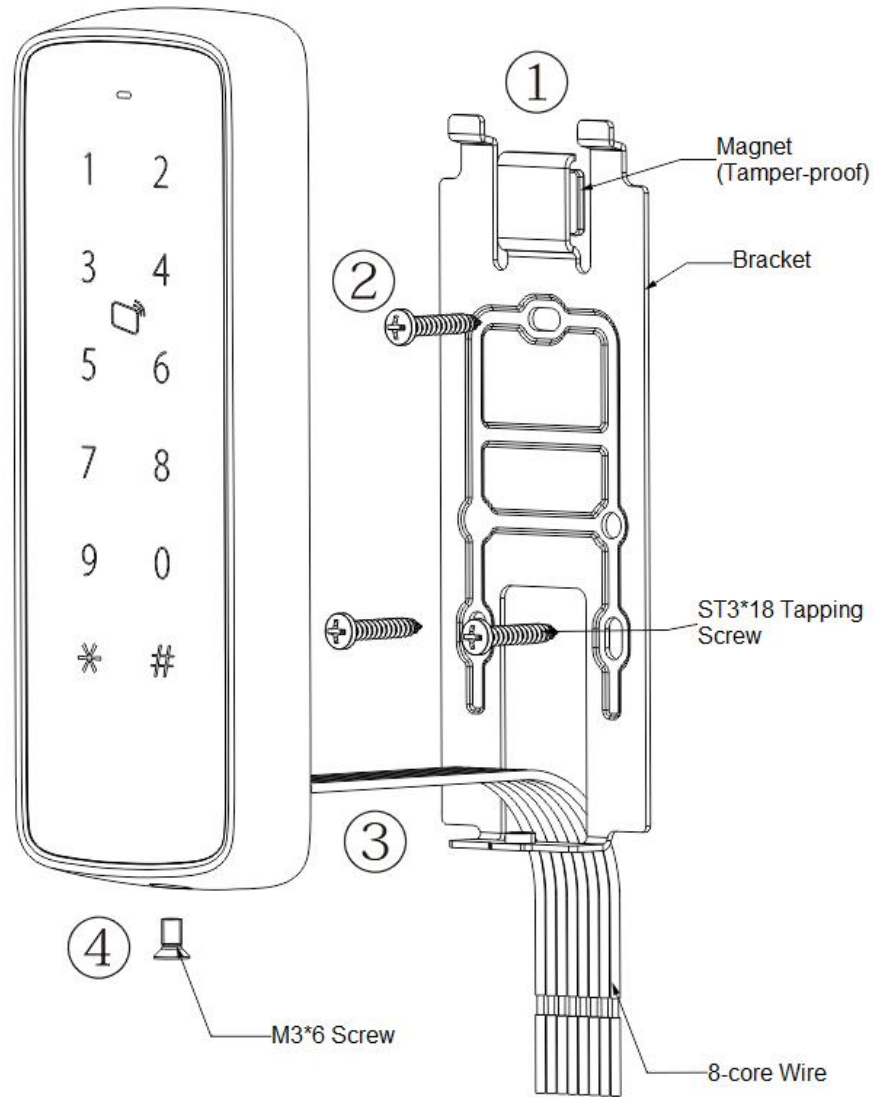
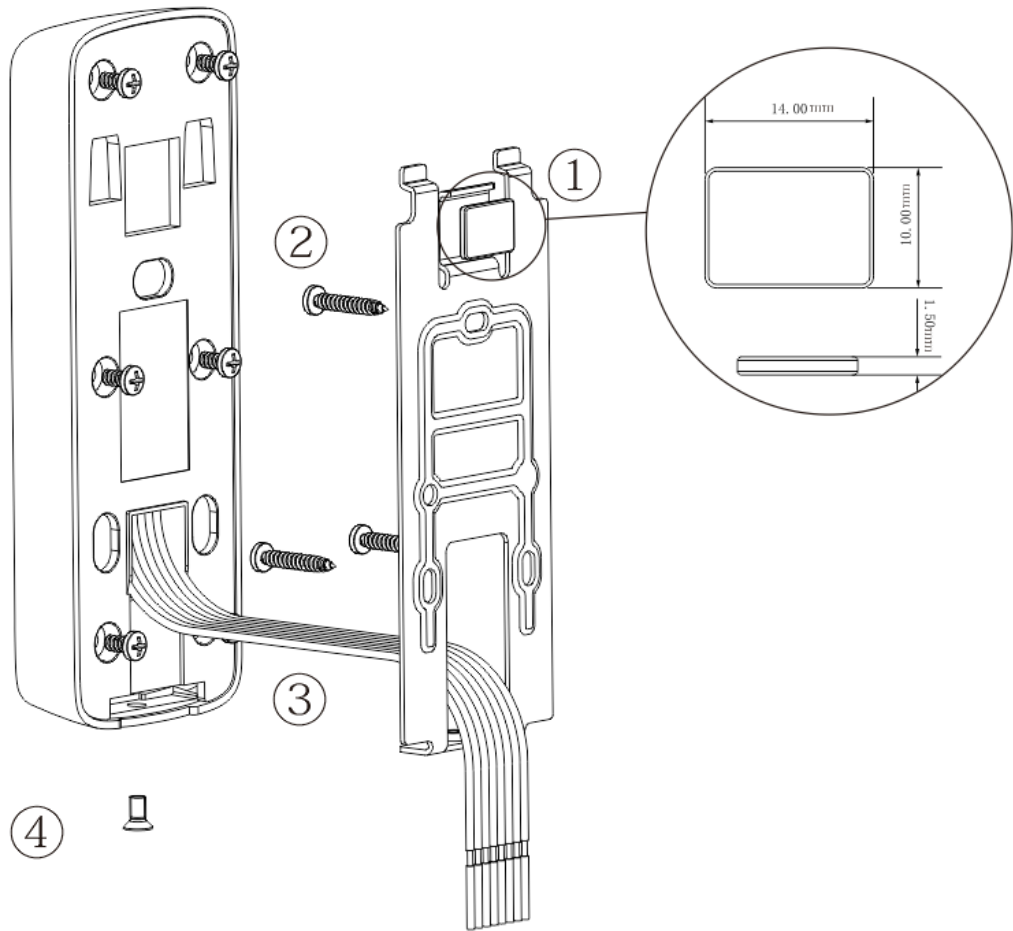

Figure 3-1
Figure 3-2
Installation diagrams of the reader are shown in Figure 3-1 and Figure 3-2.
- Step 3 Put 8-core wire of the device through the bracket, as shown in Figure 3-1 and Figure 3-2.